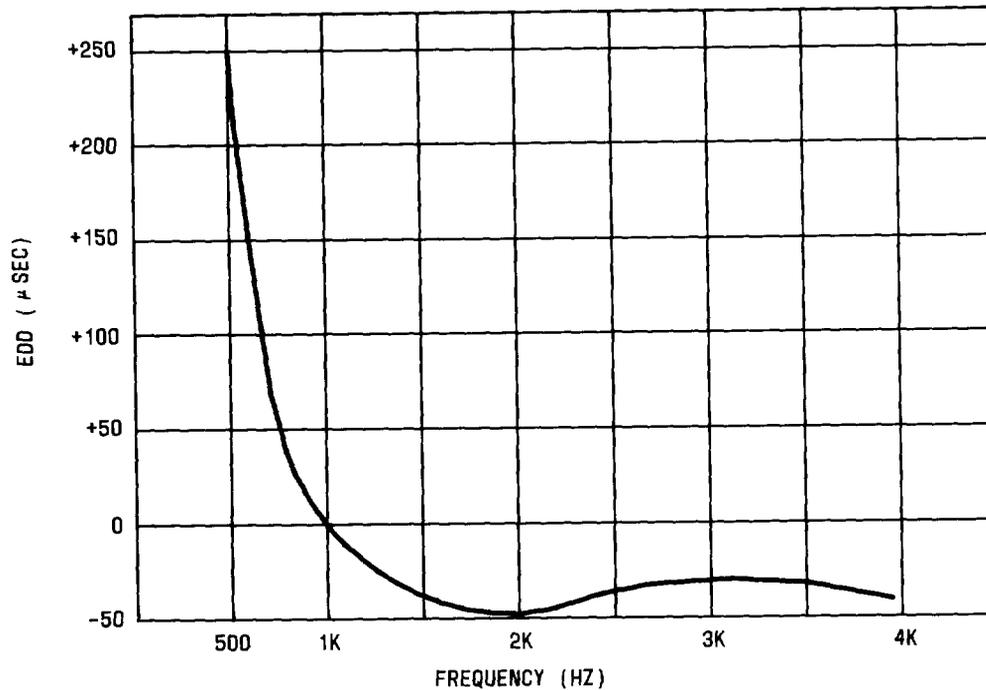

Fig. 4—Envelope Delay Distortion Curve
3.03 Figure 4 gives the envelope delay distortion for the repeater.